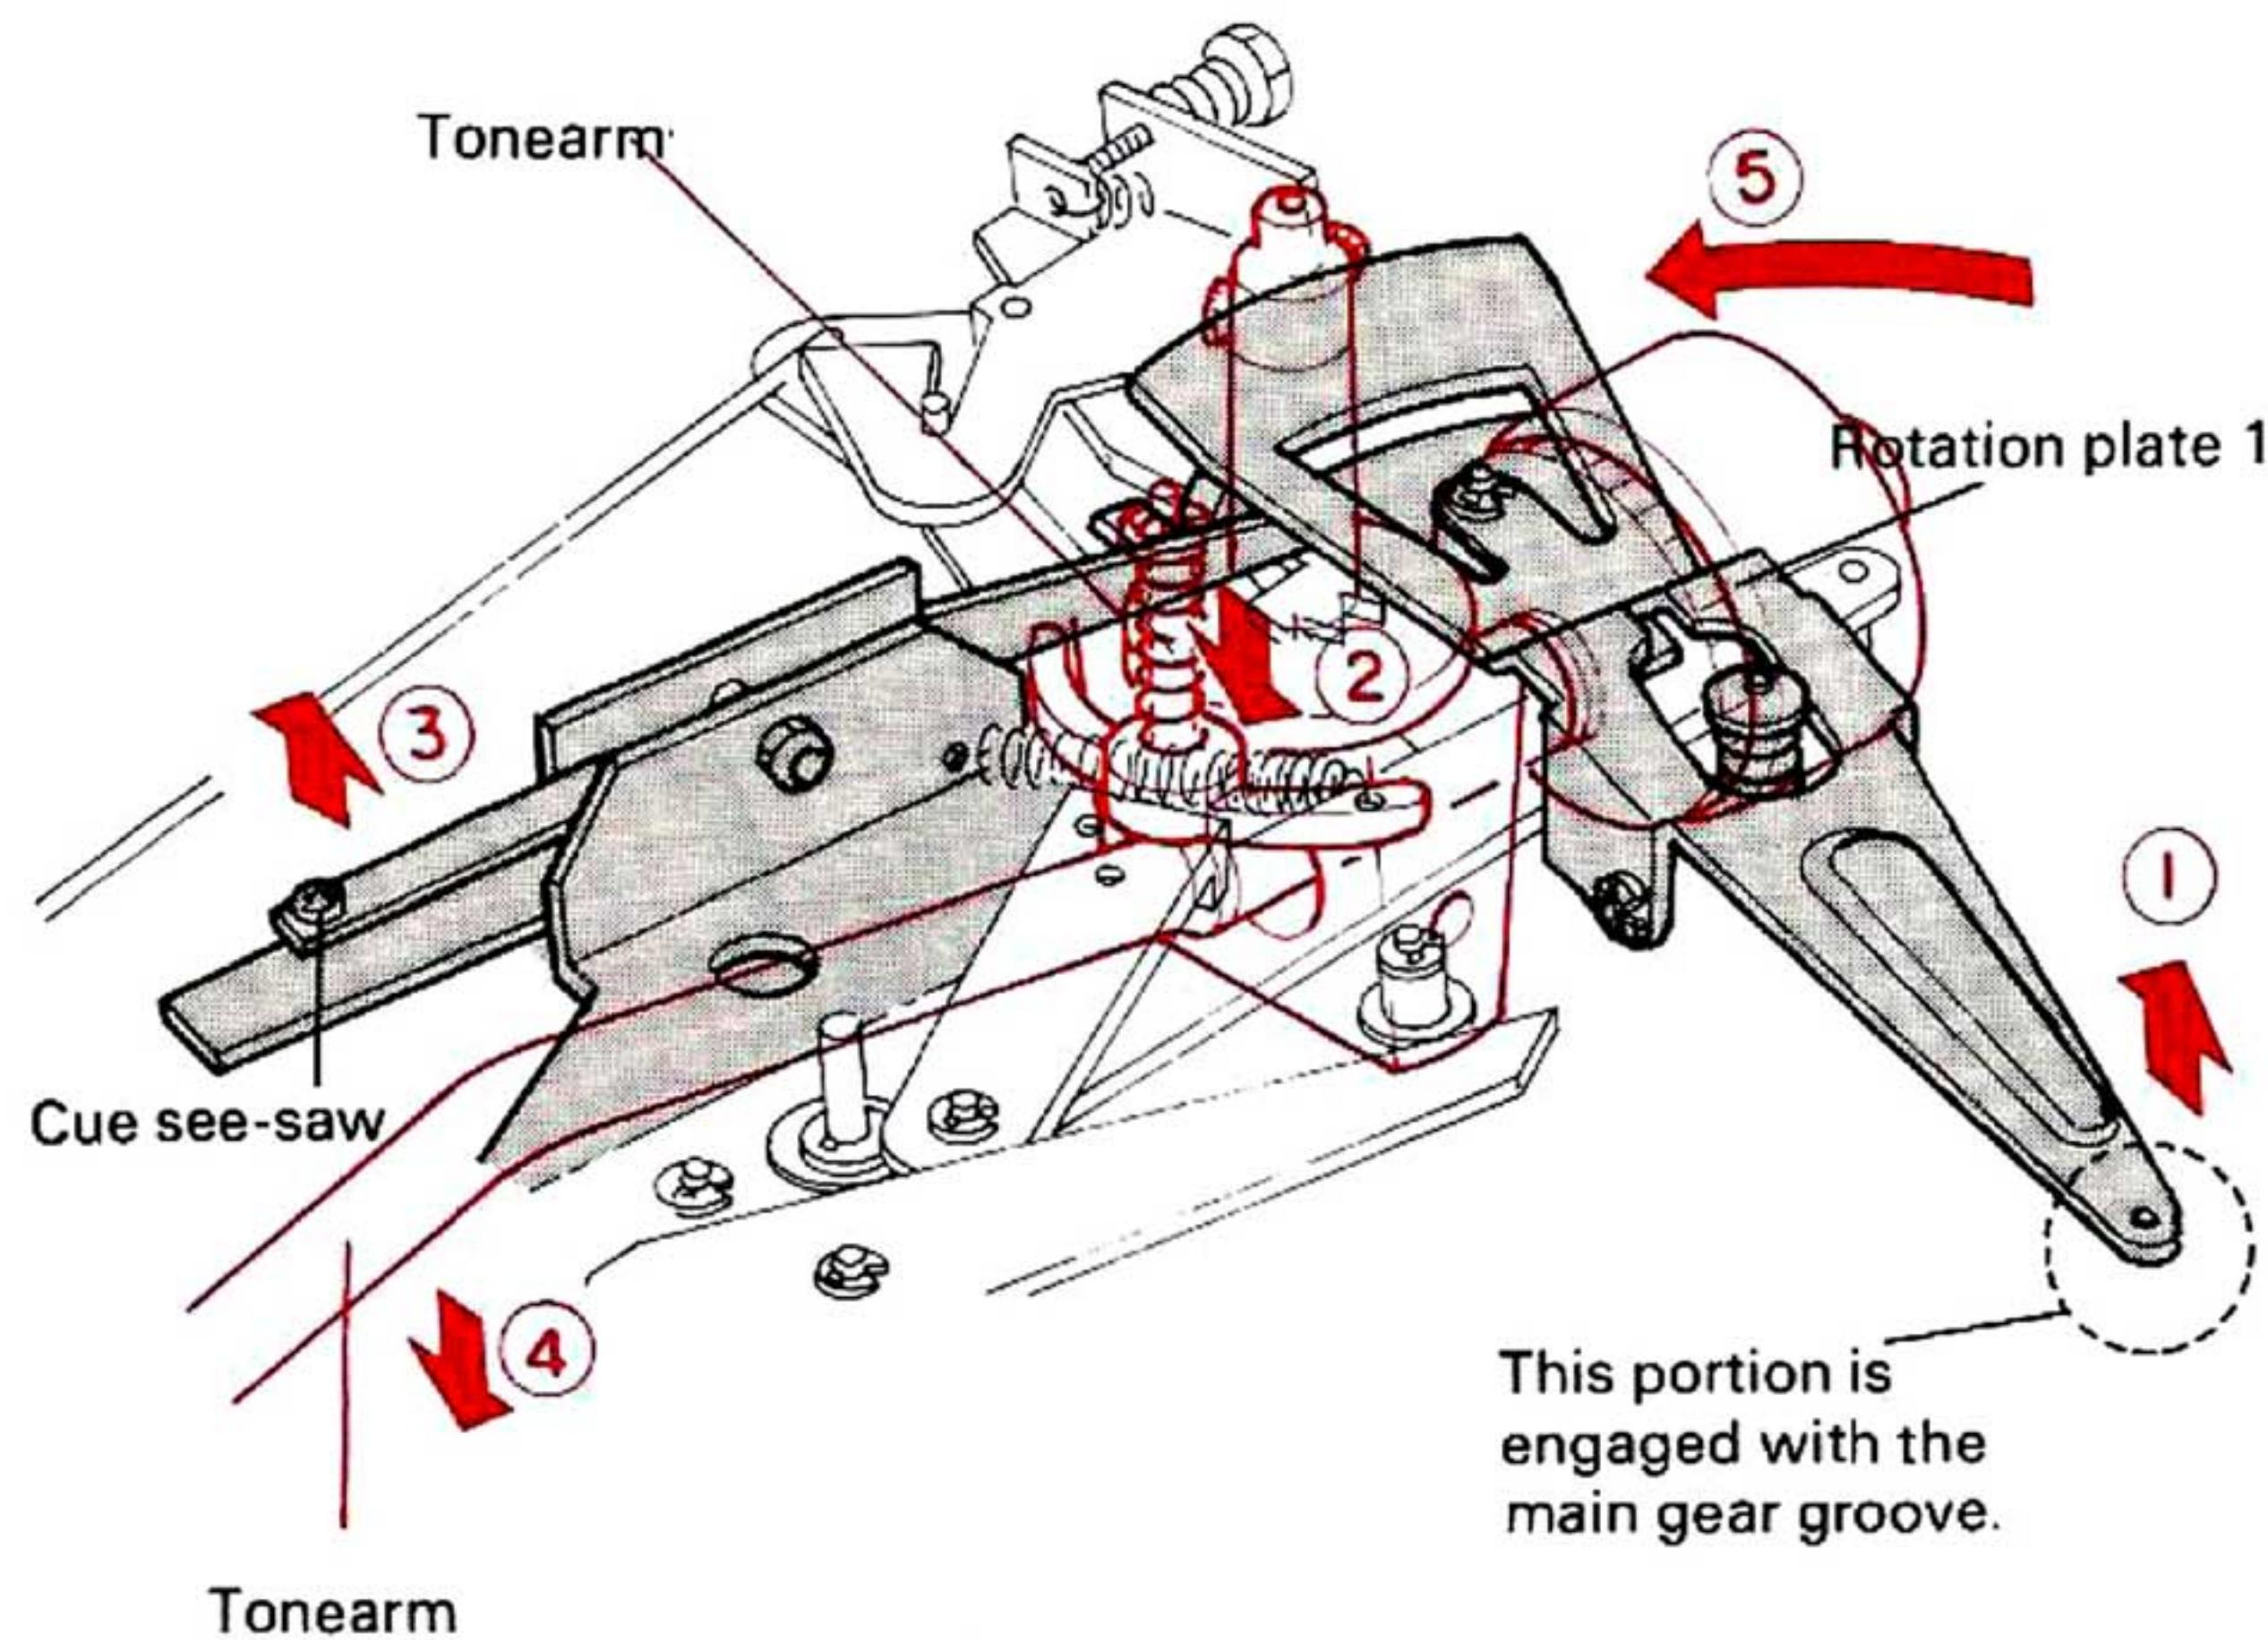

Fig. 11 Elevation of Tonearm
As the main gear begins to rotate, the depth of the main gear groove where the rotation plate 1 follows becomes shallower and the rotation plate 1 moves in direction ①. Rotation plate 1 raises the tonearm elevator and the cue see-saw in directions ② and ③ respectively to raise the tonearm up (direction ④). Right after this motion, rotation plate 1 starts to rotate in direction ⑤ due to the action of the main gear (Fig. 11).